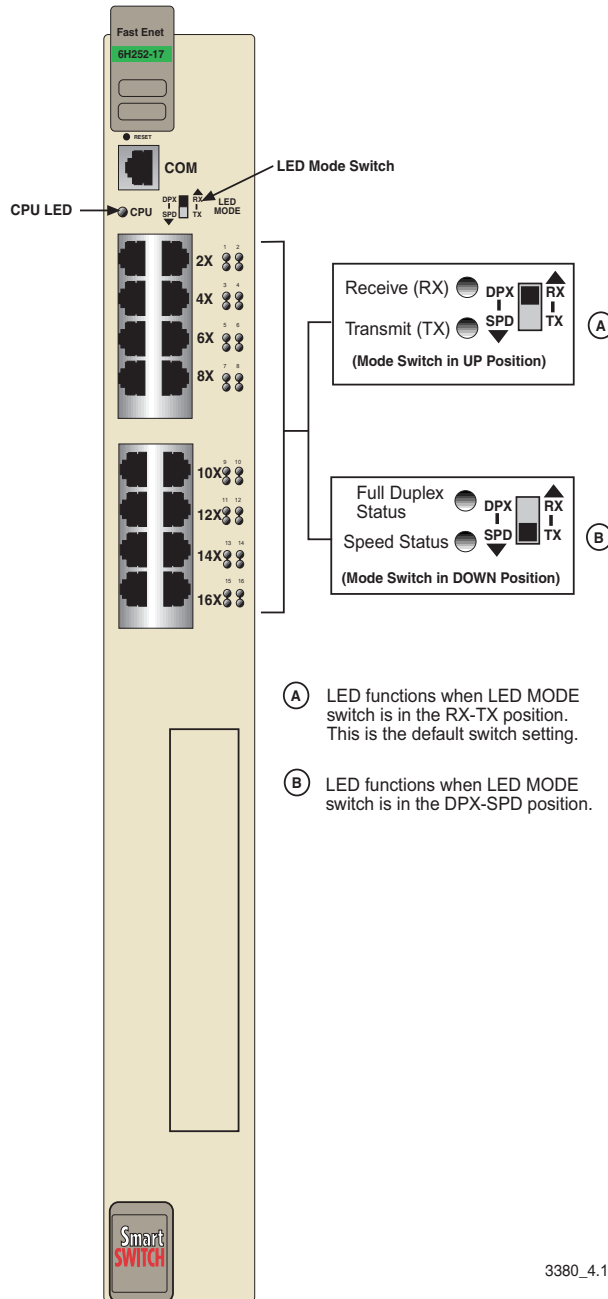

Figure 4-1 LANVIEW LEDs
The SmartSwitch modules use Cabletron Systems' built-in visual diagnostic and status monitoring system called LANVIEW. The LANVIEW LEDs (Figure 4-1) allow quick observation of the network status to aid in diagnosing network problems. Refer to Table 4-1 for a description of the LEDs.
The SmartSwitches have an LED mode switch, located on the front panel, that allows the user to change the function of the LEDs. Refer to Figure 4-1 for the location of the LED mode switch. When the switch is in the UP position, the LEDs indicate the receive (RX) and transmit (TX) status of the fixed ports. When the mode switch is in the DOWN position, the LEDs indicate at what speed the applicable port is currently operating (10 Mbps or 100 Mbps) and if the applicable port is operating in standard or full duplex mode.